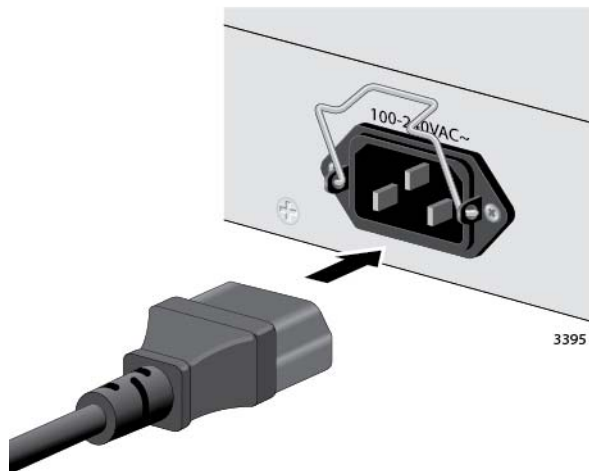

Figure 46. Plugging in the AC Power Cord
3. Connect the power cord to the connector. See Figure 46.